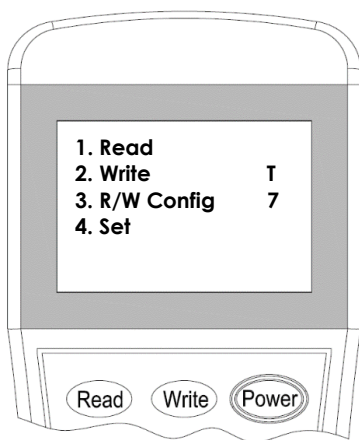

Figure 9
2. Switch-on the programmer, then press button **“3”** to enter to **Configuration mode** (Figure 9).